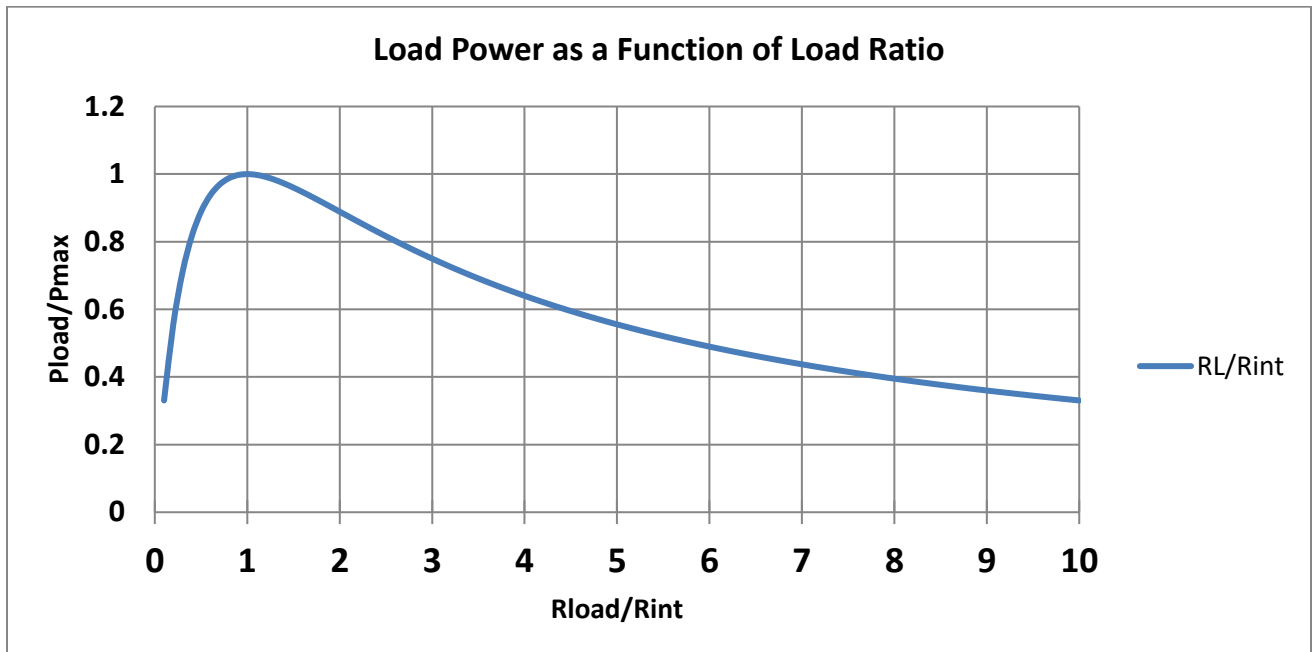

Figure 2 – Output Power as a Function of Load Resistance
**Impedance Matching:** When a load is added to the output of the module it always causes a decrease in the output voltage relative to the open circuit or no-load voltage. This can be seen from the  $V_L$  calculation in equation (2). So, it might seem that having high valued electrical loads is desirable from the standpoint of having high values of output voltage. This is not necessarily so, since the power delivered to the load is also a function of the value of load resistance. There is a well-known result from circuit theory that the maximum power is delivered to an electrical load when that load is chosen to match the input impedance of the generator. This is known as “Impedance Matching”. A plot of the power output as a function of the maximum possible power that can be delivered to a load is shown in Figure 2. This is a general plot that applies to any arbitrary electrical generator.